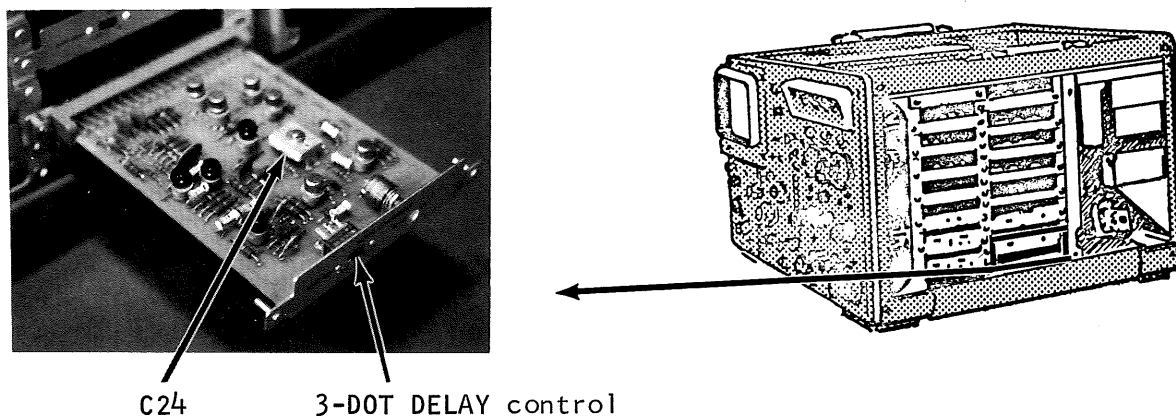

Figure 2-42
2. As the 3-DOT DELAY control on the stop comparator board is set to OUT, 3 dots must disappear at the end of the intensified zone. When the 3-DOT DELAY control is set to IN, the 3 dots must become visible at the end of the intensified zone. Adjust C24, See Figure 2-42, for proper operation of the 3-DOT DELAY control. See Figure 2-43.